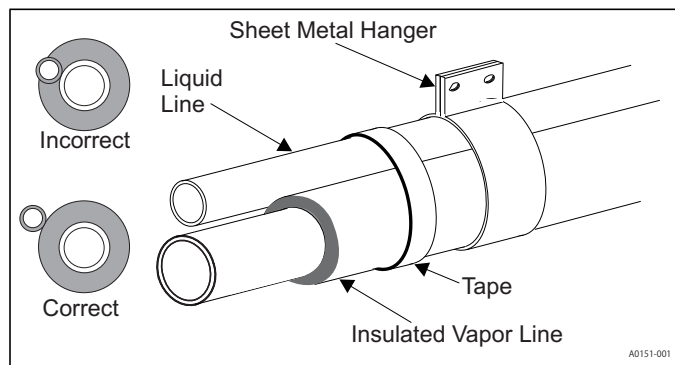

FIGURE 3: Installation of Vapor Line
8. Tape and suspend the refrigerant lines as shown. DO NOT allow tube metal-to-metal contact. See Figure 3.